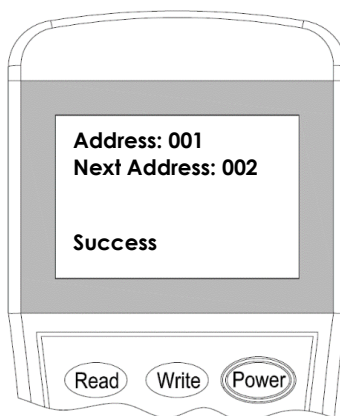

Figure 6
3. Input the desire device address value from 1 to 254 and then press **“Write”** to save the new address (Figure 6).